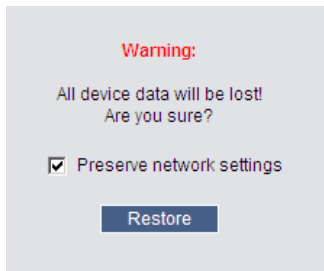

Figure 25 Restore factory settings
1. From the menu select **Restore Factory Settings**. Restore Factory Settings appears see Figure 25.